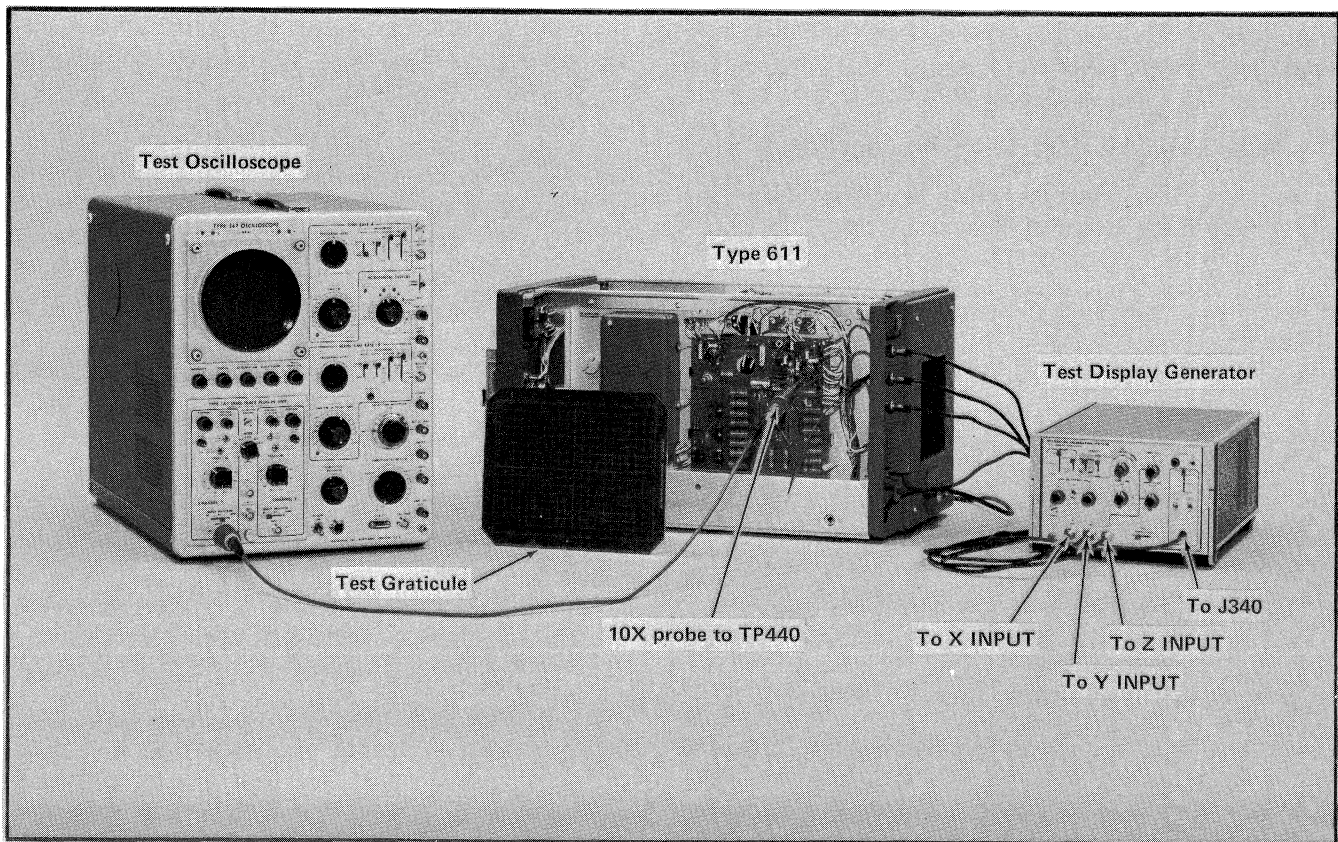

Fig. 5-5. Equipment required for Z Axis Amplifier calibration steps.
a. Test equipment setup is shown in Fig. 5-5.